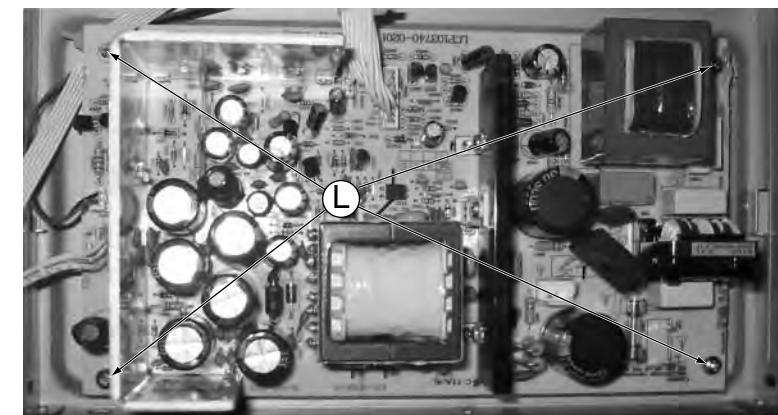

Figure 12
- 1) Loosen 4 screws ' L' to remove the Power Board figure 12.